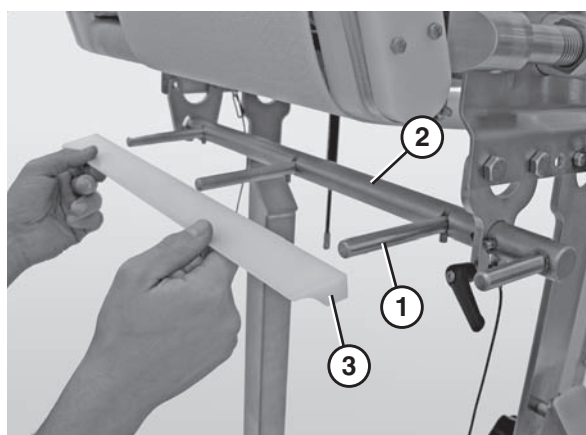

Figure 29
4. Attach the scraper bar holders (**Figure 29, item 1**) to the scraper shaft (**Figure 29, item 2**).
5. Attach the UWHM scraper (**Figure 29, item 3**) to the scraper bar holders (**Figure 29, item 1**).